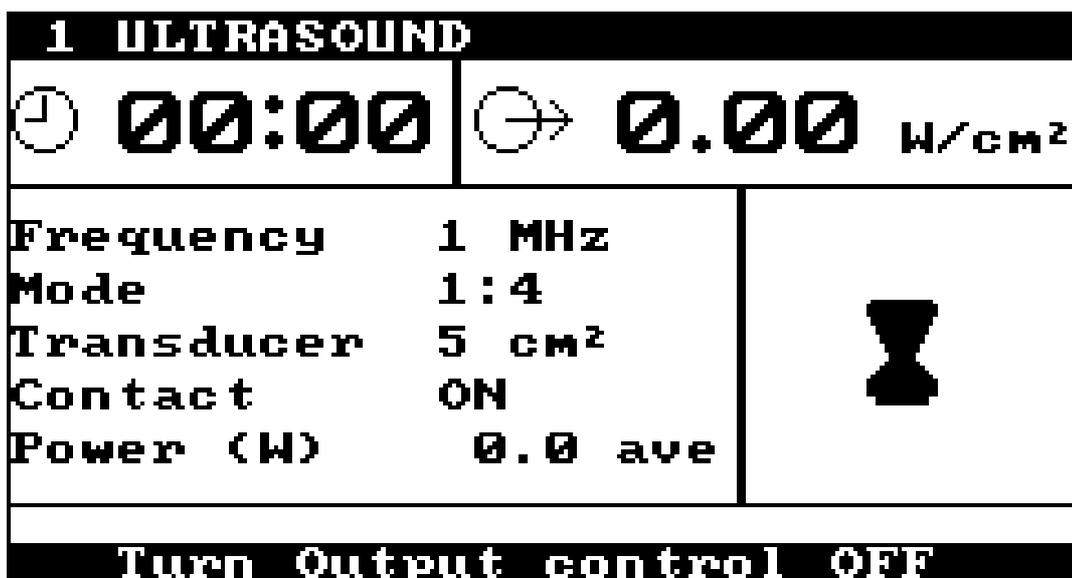

Figure 20 - End of Treatment
19. When the treatment time reaches 00:00, the ultrasonic power from the transducer will be terminated, the treatment indicator on the transducer and the light below the output socket will turn off, the display will show zero intensity and power, at the bottom of the screen the message "Turn Output control Off" will flash and an intermittent alarm will sound (figure 20). The output control should be returned to the off position and the alarm will cease.